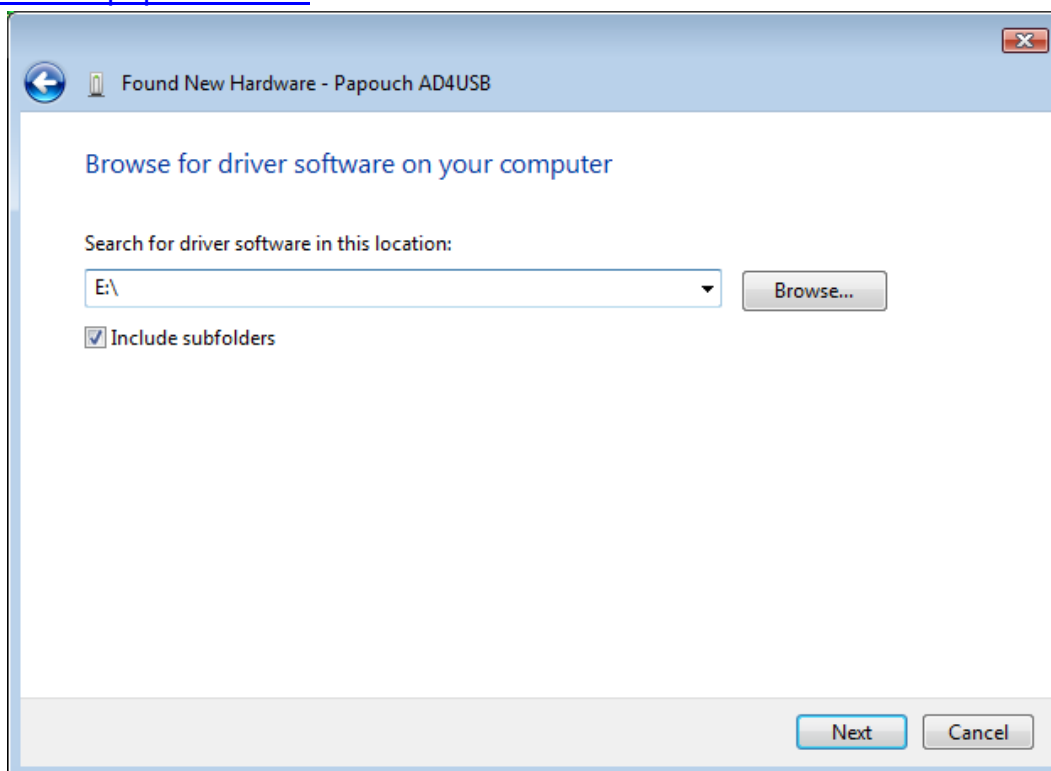

Fig. 10 – Searching for drivers
- 3) If the system fails to find the driver software automatically, the window shown in Figure 10 will be displayed. Here, click “I don’t have the disc. Show me other options”.